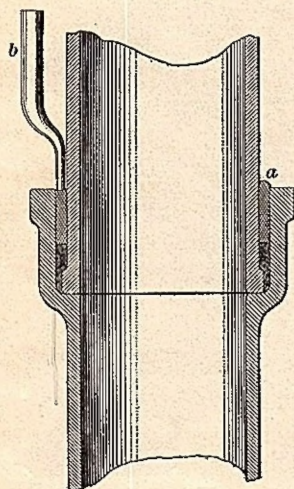

FIG. 9
into the socket, the lead will drive it too far when it is calked, and the work will be defective. In a joint of an upright pipe the lead should be poured into the socket until it stands about $\frac{1}{8}$ inch above the rim, when it is just on the verge of overflowing, as shown at *a* in Fig. 9. The object of the excess of lead is to obtain a flush finish with the edge of the hub when the lead is calked; this result obtains if the oakum has been packed in solid. The stiffness and durability of the joint depend on the perfect and complete filling of the socket to the extreme edge.
9. The process of calking the lead or oakum should be begun at the most difficult or inaccessible parts of the joint, so that the lead and oakum in these parts will be compressed still more when the other parts of the joint are being calked. The staving tool or lead calking tool *b*, Fig. 9, should be run around gently the first time, and then around again with heavier blows of the hammer to drive the lead uniformly home, thus avoiding unequal strains on the socket. Each blow of the hammer increases the pressure inside of the hub, and judgment must be exercised to avoid cracking the hub by overpressure. It is well for the beginner to calk a few joints as an experiment until the sockets burst, to determine when he should stop calking.